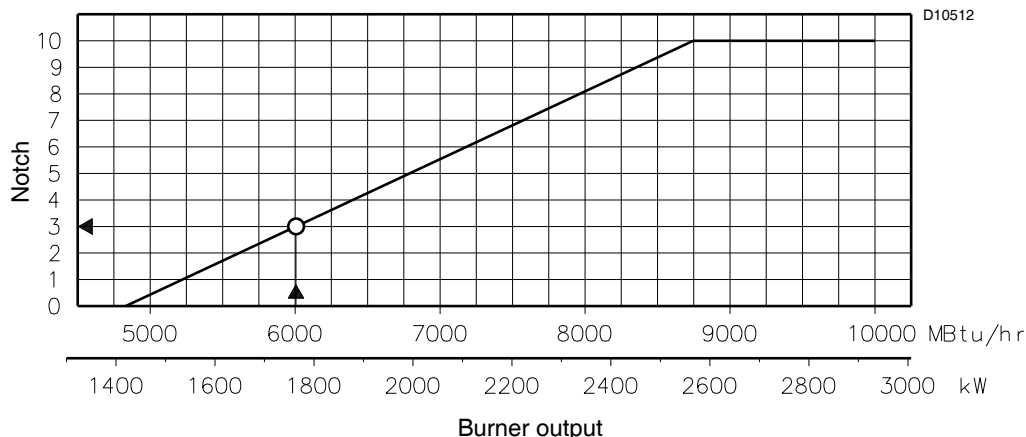
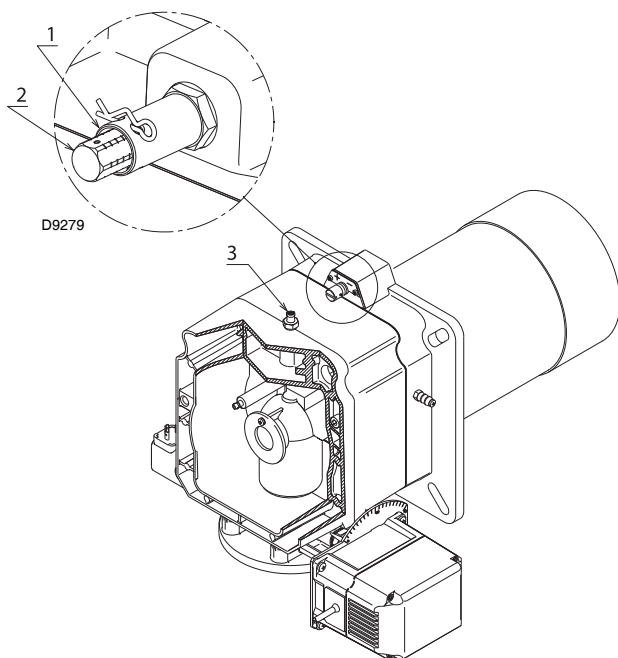

Fig. 14
Fig. 15
In Fig. 14, find the notch at which to adjust both air and central gas/air.
Rotate the screw 2)(Fig. 15) until the notch you have found corresponds with the front surface 1) of the flange.
To facilitate adjustment, loosen the screw 3) (Fig. 15), adjust and then lock.
The diagram of Fig. 14 shows that the adjustments for this potential is external air R1 = notch 3.
- Ring nut 2)(Fig. 15) adjusted as in the diagram of Fig. 14